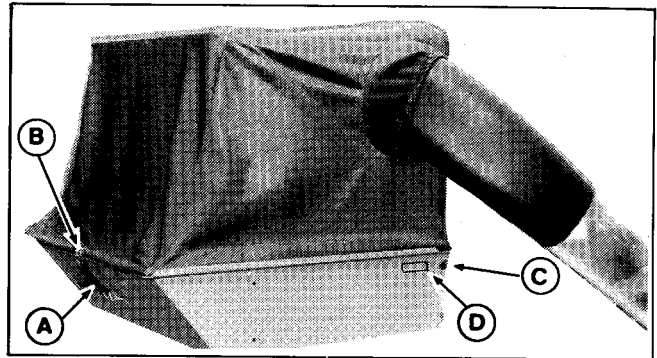

Figure 11.
- Insert an "S" hook to each end of the strap (A, figure 11). Hook one end through clip (B) and pinch closed with a pliers.
- Pull the cover down so it appears as in figure 11. To secure the front, pull the cord loops (C) onto the spacers. To secure the rear, hook the strap (A) onto back of cart as shown.
- Install warning decal (D, figure 11) so it is visible from right-hand side. Make sure surface is clean. Remove backing paper and tack edge of decal in position. Then apply decal with heel of hand, smoothing out bubbles. The edge of a ruler can also be used.
It is important for operator safety, that the warning decal be installed as shown in figure 11.